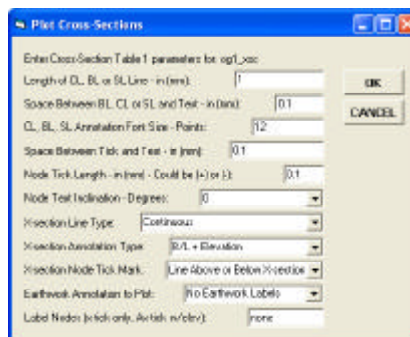

Figure 6
9. Enter the desired values for each of the parameters, shown in Figure 6, click at the: